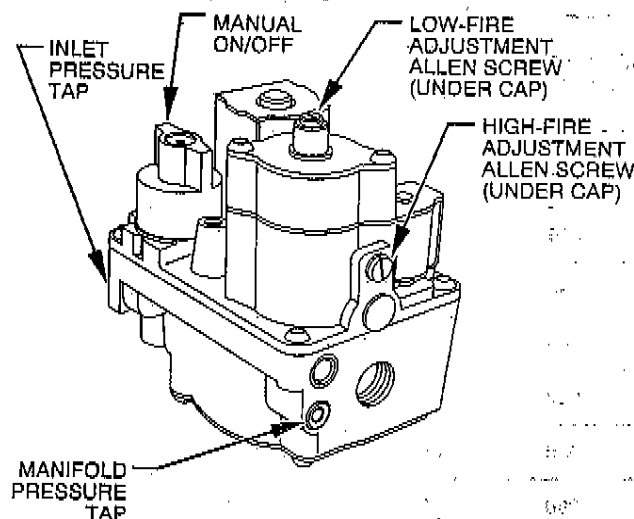

Fig. 15—Redundant Automatic Gas Control Valve
b. Remove gas control regulator adjustment seal caps. (See Fig. 15.)